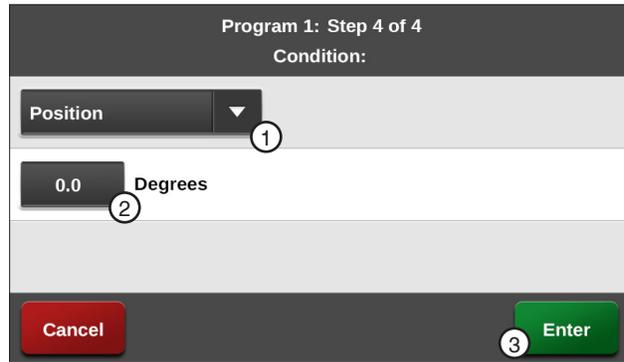

Figure 110-1 1. Position Condition 2. Degrees 3. Enter
11. Program the position condition for this step. Refer to Figure 110-1.